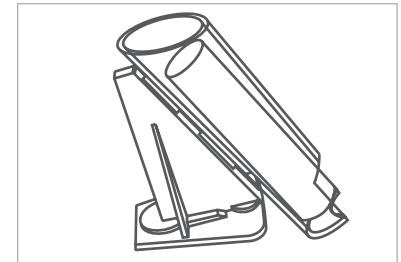

Figure 1: Coin roll inserted into coin tube
- Insert the appropriate pre-formed paper wrapper in the coin tubes with the crimped end down. Ensure the top of the paper wrapper is below the top lip of the coin tube as shown in Figure 1.